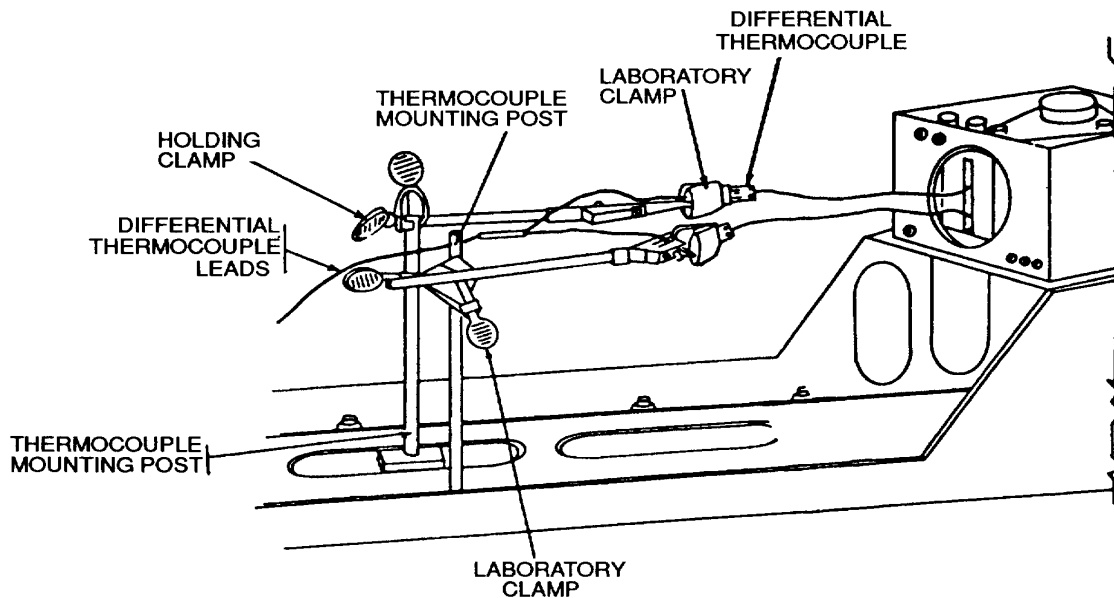
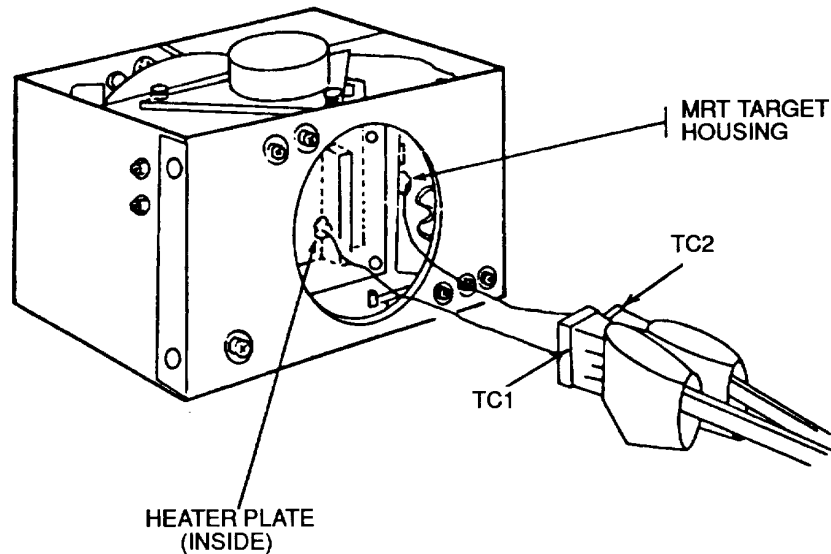

Figure 2. Equipment setup.
Figure 3. Temperature controller – heater plate.
- c. Connect equipment as shown in figure 2 and as described in (1) and (2) below:
- (1) Install thermocouple mounting post (pair) on base of TI (approximately center of second slot pair from exit port).
- (2) Clamp differential thermocouple set (pair) in laboratory clamps and install on thermocouple mounting posts, using mounting post clamps.
- d. Using cotton tip applicator wood end, daub a small amount of thermally conductive paste on the extreme bottom of heater plate (fig. 3) on front of temperature controller.
- e. Place tip of thermocouple TC1 (fig. 3) against bottom of heater plate, in the thermally conductive paste.
- g.** Increase tension on thermocouple TC1 (fig. 3) to produce a moderate bow in thermocouple wire by sliding laboratory clamp forward (toward temperature controller) in mounting post clamp; then tighten mounting post clamp.
- h.** If necessary, physically position thermocouple TC1 on heater plate to the position shown in figure 3.
- i.** Daub a small amount of thermally conductive paste on side of brass housing of MRT target (fig. 3) housing (on temperature controller) and place tip of thermocouple TC2 (fig. 3) in the thermally conductive paste.
- j.** Repeat technique of f through h above for thermocouple TC2 (fig. 3).
- k.** Place leads from differential thermocouple (fig. 2) on base of TI near exit port.